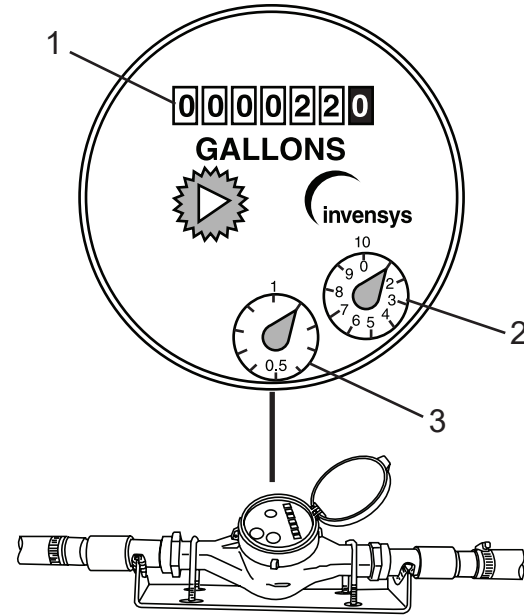

Figure 107
The Precision PMM™ water meter (Figure 107) is installed directly in the water supply line to monitor the amount of water used.
- a. Record the reading from the counter (Figure 107, Item 1), in this case 220 gallons (833 liters).
- b. Add the reading from the sweep hand on the “10” counter (Figure 107, Item 2), in this case 1 gallon (3.8 liter).
- c. Add the reading from the sweep hand on the “1” (tenths of a gallon) counter (Figure 107, Item 3), in this case 0.1 gallon (0.4 liter). The actual reading of the meter is 221.1 gallons (836 liters).